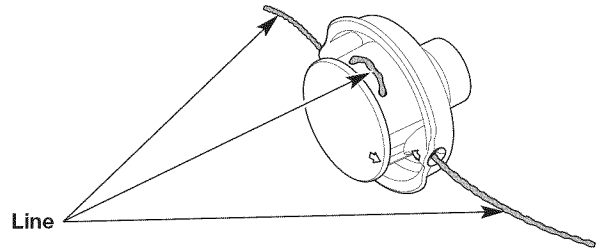

Fig. 15
4. Pull the ends of the line until the line is tight against the cutting head. Make sure the ends of the line are of equal length (Fig. 15).